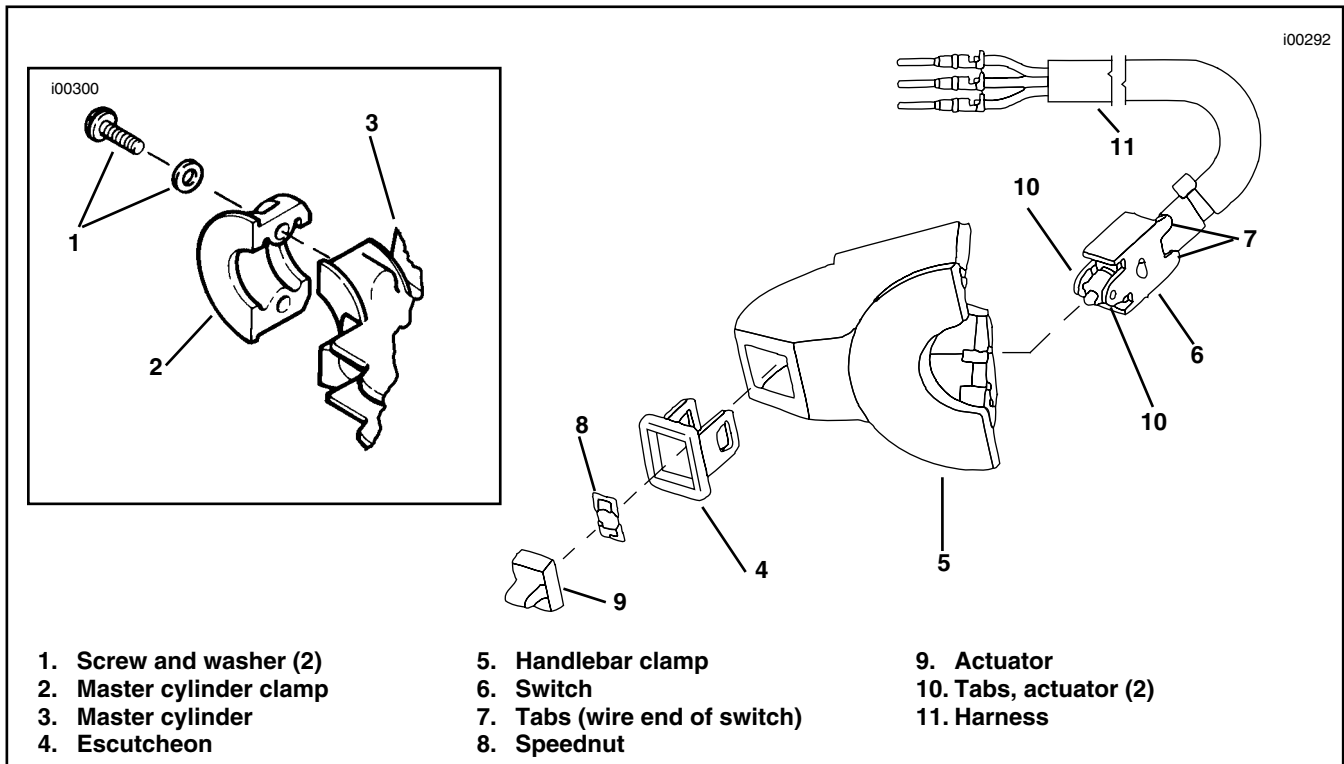

Figure 9. Installing Set / Resume Switch
1. See Figure 9. Remove the two screws and washers (1) that secure the master cylinder clamp (2) and master cylinder (3) to the handlebar and remove master cylinder clamp (2). Discard the two screws and retain the washers for use later.
2. Remove from the kit and insert the escutcheon (4) into the Set/Resume handlebar clamp (5).
3. Insert switch (6) with side having two tabs (7) positioned as shown.
4. Press switch (6) into escutcheon (4) until it latches into position.
5. Install speednut (8), place actuator (9) on switch rod and press until actuator pins enter holes in switch tabs (10).